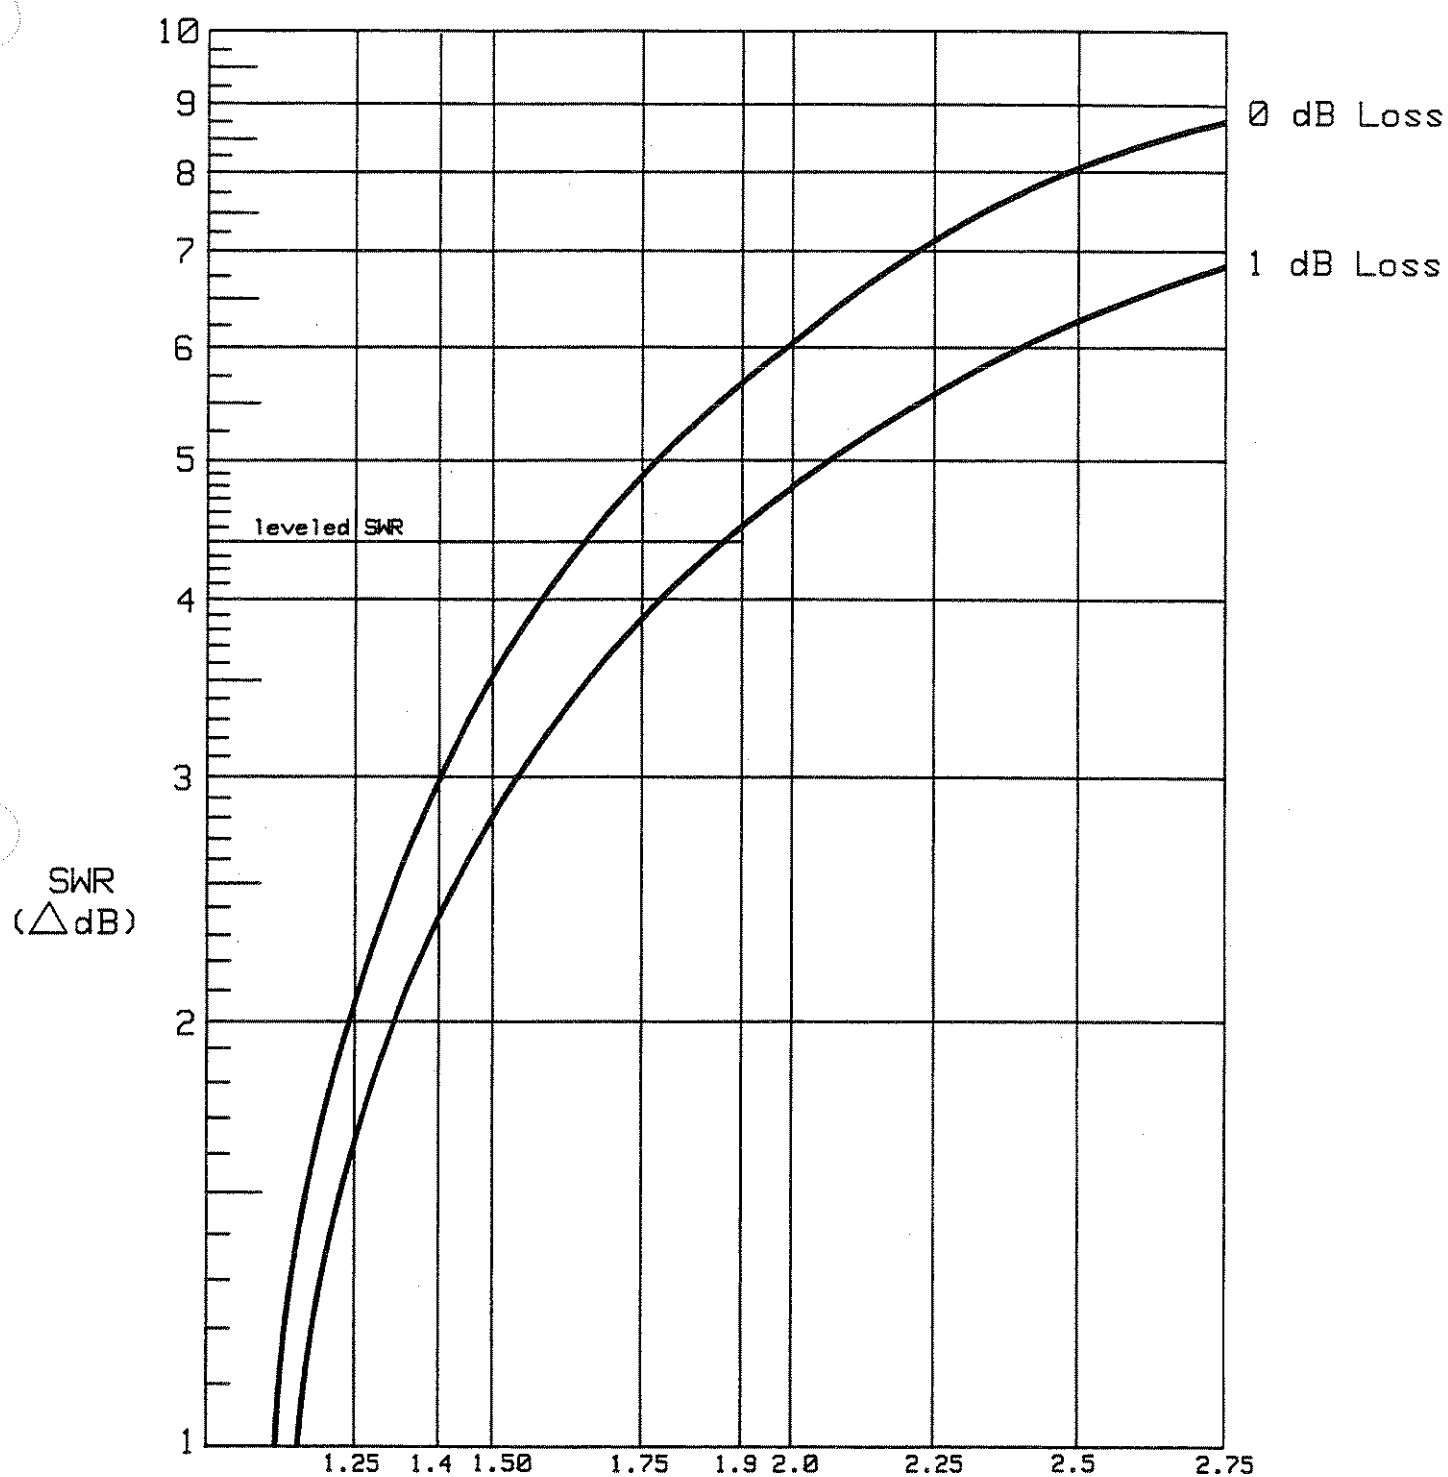

Figure 3-6. Conversion Chart
7. Calculate the SWR using Figure 3-6 as follows: